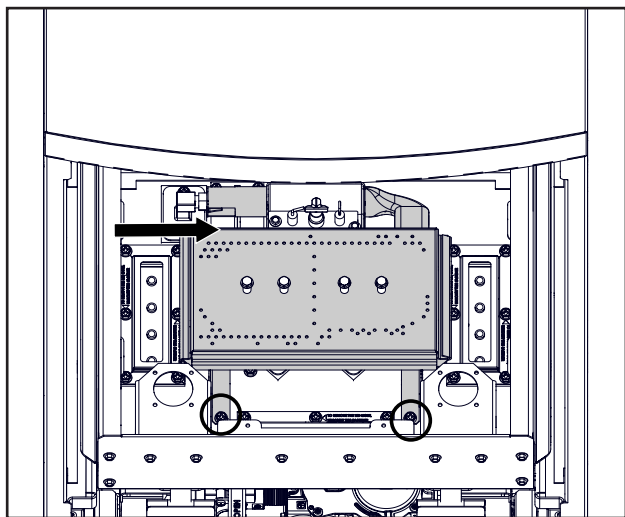

Fig.3
- ☐ 6. Remove 2 screws holding the burner in place, save for reinstall. Slide the burner to the right, off of the air shutter and lift it from the appliance (Fig. 3).